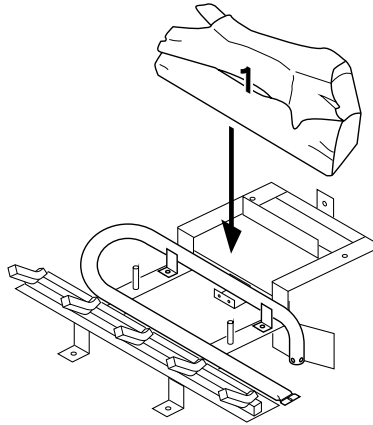

Figure 47 - Installing Log No. 1
2. Place log #1 (back log) on top of grate. Make sure the notches in the bottom of the log fit over the grate (see Figure 47).